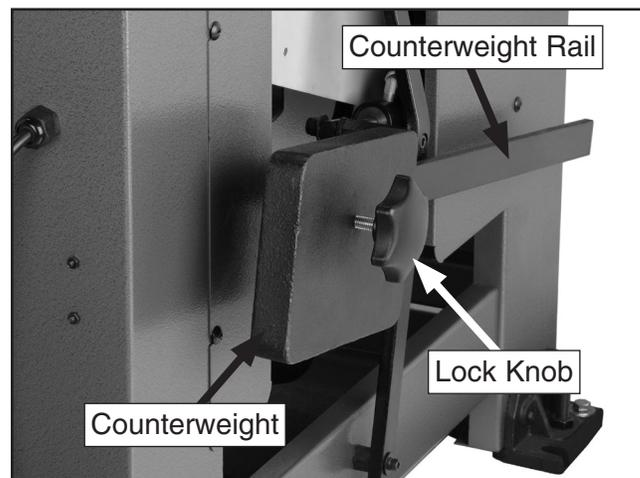

Figure 11. Counterweight installation.
3. Slide the counterweight onto the counterweight rail and secure in position with the lock knob (**Figure 11**).